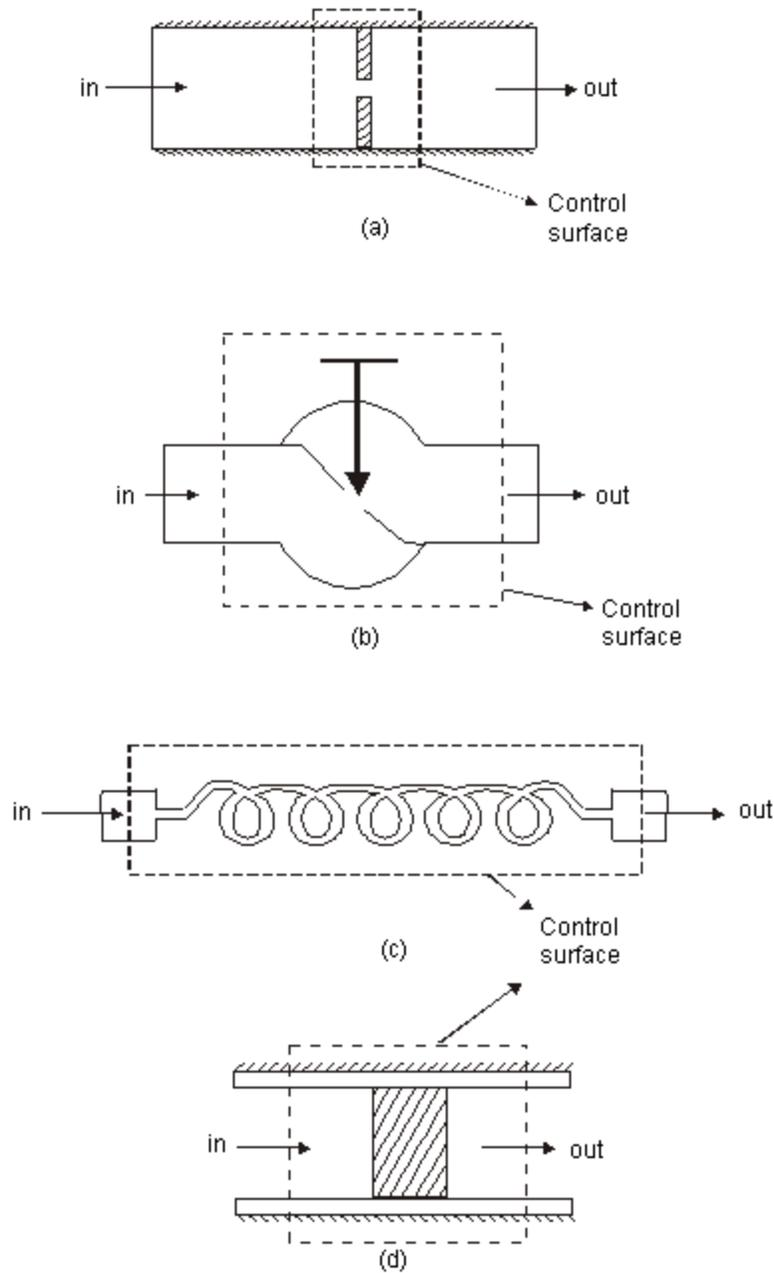

Figure 3.10 Examples of throttling processes
- a plate with a small hole as shown in Figure 3.10 (a)
- a valve partially closed as shown in Figure 3.10 (b)
- a capillary tube which is normally found in a refrigerator as shown in Figure 3.10 (c)
- a porous plug as shown in Figure 3.10 (d)